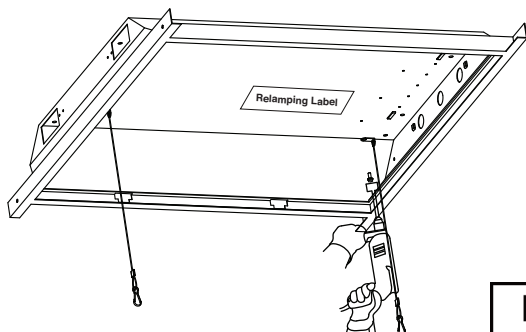

Fig. 1
1. Drill two holes on the housing using self tapping screws and attach the safety cables. Apply relamping label to housing where it will be visible after installation. (Fig. 1)